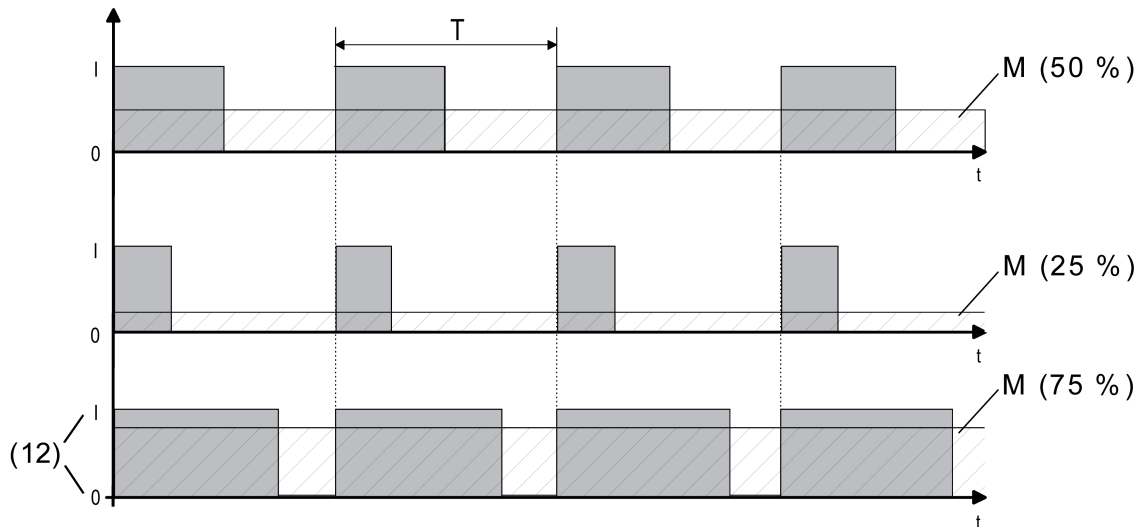

Figure 39: Pulse width modulation of a valve output signal
As soon as that device should set a constant command value or a valve setpoint position value configured in the ETS, it modulates the output signal using the switch-on pulse width. Taking the cycle time (T) settable in the device into account, the average output signal (M) resulting from this modulation is a measure of the centred valve position of the control valve and thus a reference for the set room temperature (Figure 39).